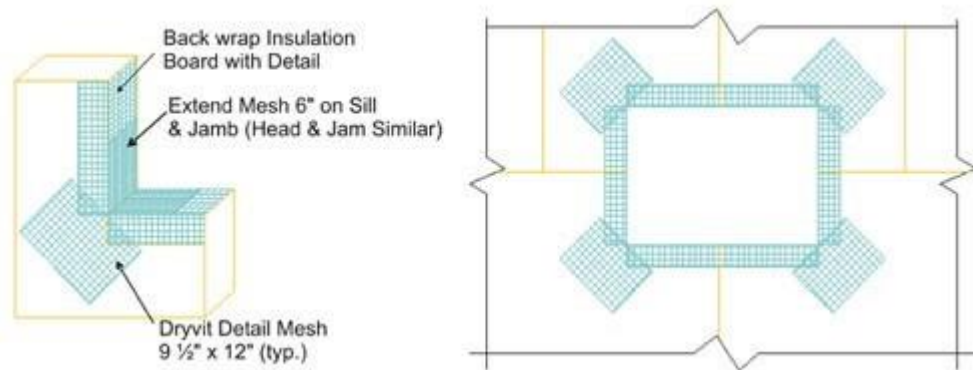

Figure 10: Fig. 10 : Rough Openings
- 18) Corners of all openings such as windows, doors, mechanical equipment and all penetrations shall be reinforced with Detail Mesh placed diagonally to the opening as illustrated in Figure 10